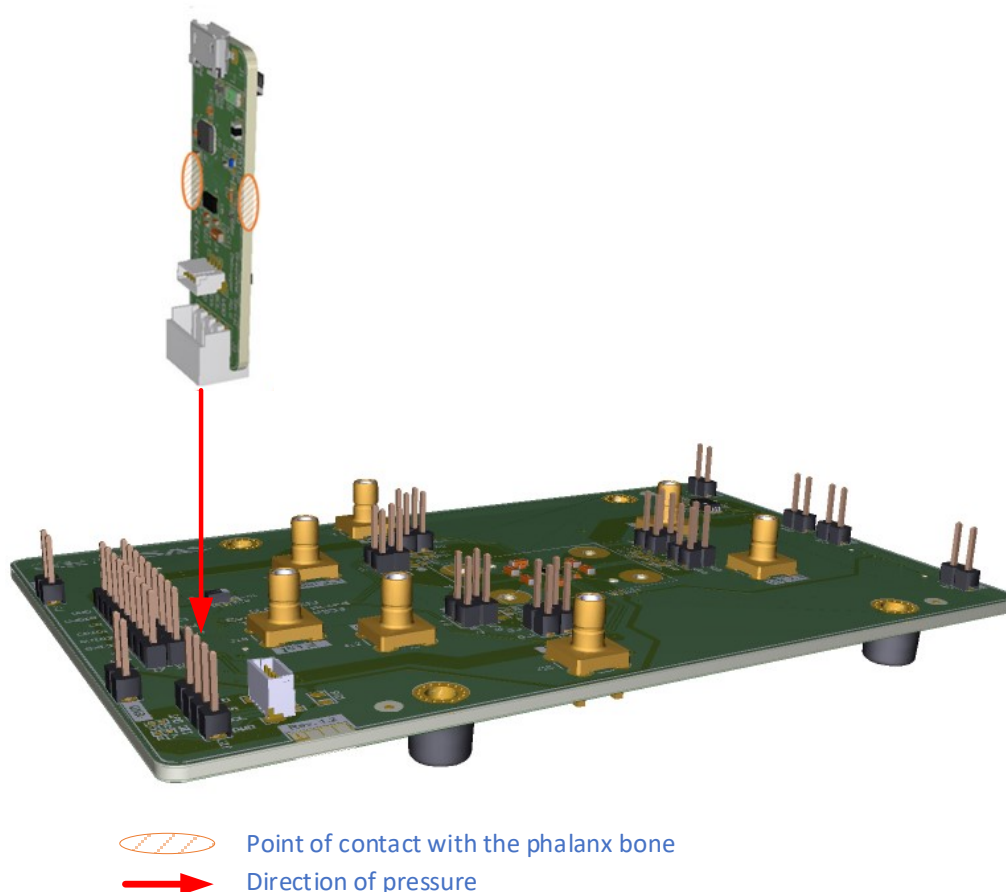

Figure 5. Connecting GSD Board to Evaluation Board
To start using the Evaluation Board for chip emulation, three separate power supplies are required alongside with the GreenPAK Serial Debugger. For IC emulation, apply  $V_{DD}$  and  $V_{DDIO}$  based on application requirements and 1.8 V to the chip select (CS) pin, then insert the GSD board as shown in Figure 5. A typical connection circuit for chip emulation is shown in Figure 6.